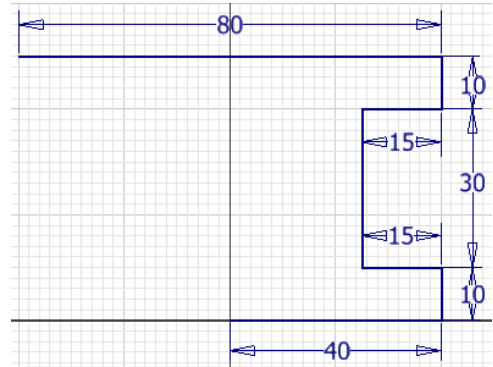

Figure 2-100(d) Dimensioning the sketch
7. Draw the remaining lines, as shown in Figure 2-100(e).